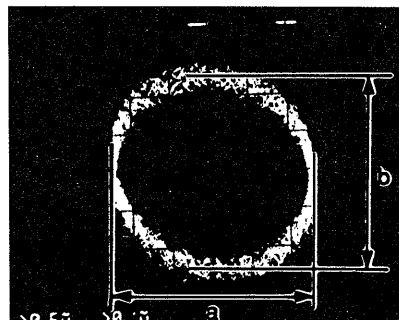

Fig. 2 Tracking gain adjustment (100 deg : inserting noise filter)
4. Adjust on the oscilloscope so as to attain the status (a=b) shown in Fig. 2.
5. Adjust each RV so that phase difference is 100 ± 5 deg (Fig. 2).